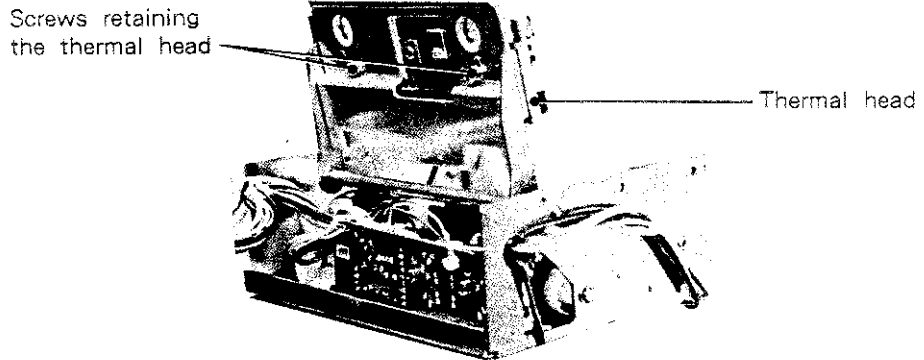

Fig. 2-10
9. Hold up the thermal head and remove screws retaining the thermal head. (Fig. 2-10)